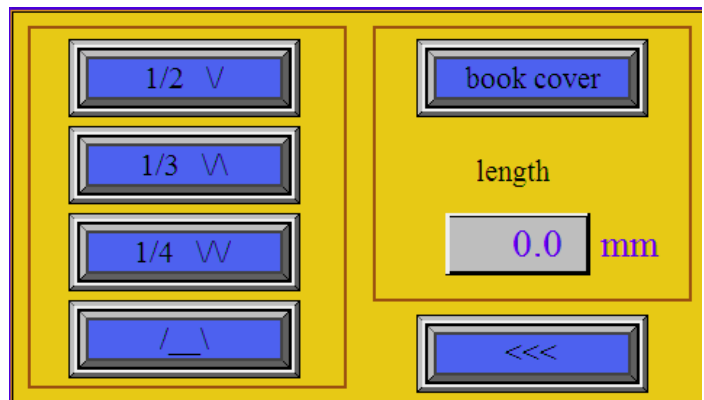

Fig. 9: Setting screen - most common fold types
- Press the "Setting" button on the Main Menu to access the fold types. Press the ">>>" icon on the Setting screen to enter the screen where the common fold types are displayed (fig. 9). To utilize the most common folds it is necessary to crease in distances of 1/2, 1/3 or 1/4 of the paper. Press the appropriate icon to select one of the common fold types. For example, press the "1/2" icon, followed by "<<<", "Return" and "Start" icons. The selected fold type icon will appear on the main screen ( i.e. 1/2). Pass one sheet through the machine, its length is measured and 1/2 of the length is calculated. The screen changes to the Setting screen (fig. 9). The calculated length of the 1/2 is displayed in the "length" box. Then return to the main screen and press the "Start" icon. It is recommended to process only one sheet and check the position of the crease/perforation, and check whether the distance was measured correctly. If the crease is not precisely set to the required distance, return to the Setting screen and correct the distance manually. All other folds work the same way.
1. Among the fold types is a special function called book cover (fig. 9). The FD 230 is ideal for making professional book and brochure covers. Book cover is defined by 4 creases made in the middle of the sheet with fixed distances 6 mm between the first and second crease and third and fourth crease. The distance between the second and third crease is optional depending on the book thickness. This dimension is defined by the “length” icon below the book cover icon.